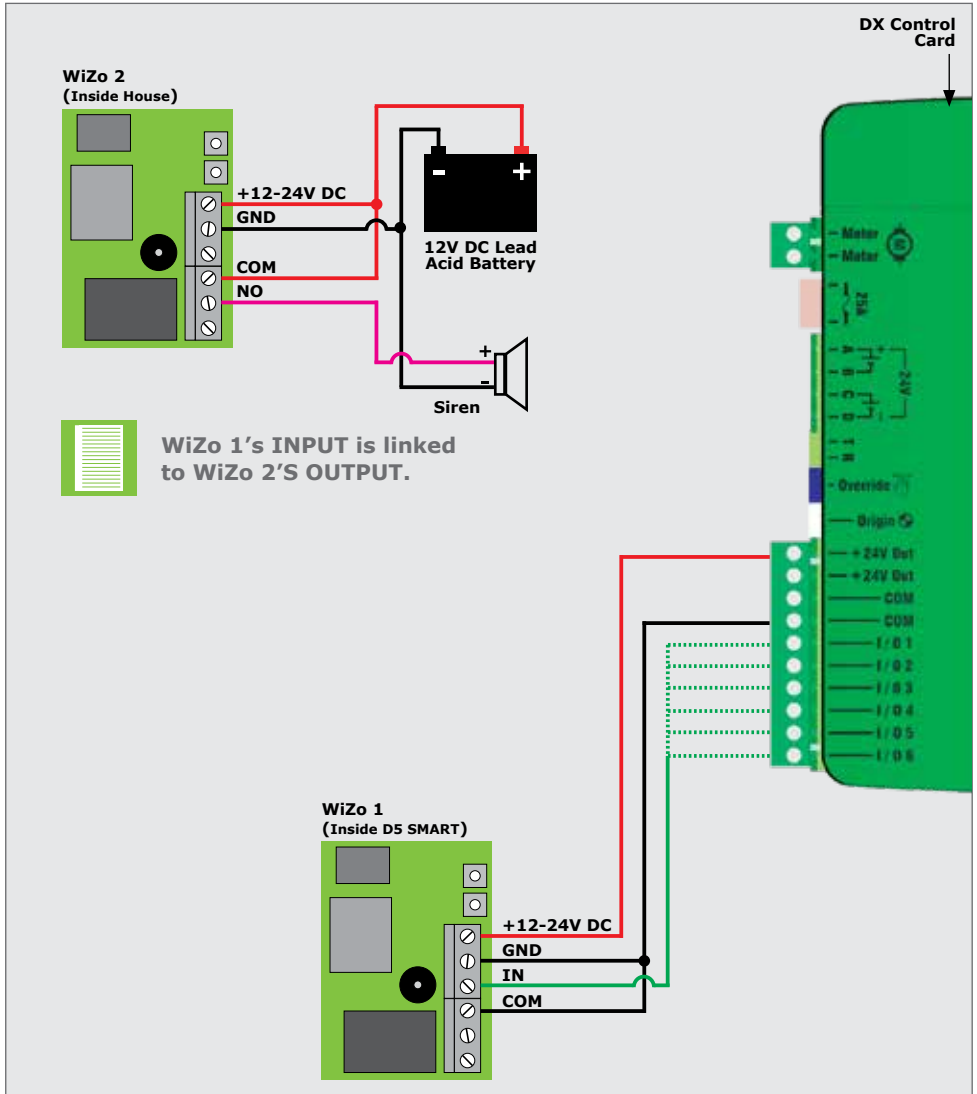

FIGURE 87. ANTI-TAMPER ALARM WIRING WITH TWO WIZOS
- The trigger/TRG (green wire) in Figures 87 can be either wired into IO1 - IO6, depending on the sites individual needs